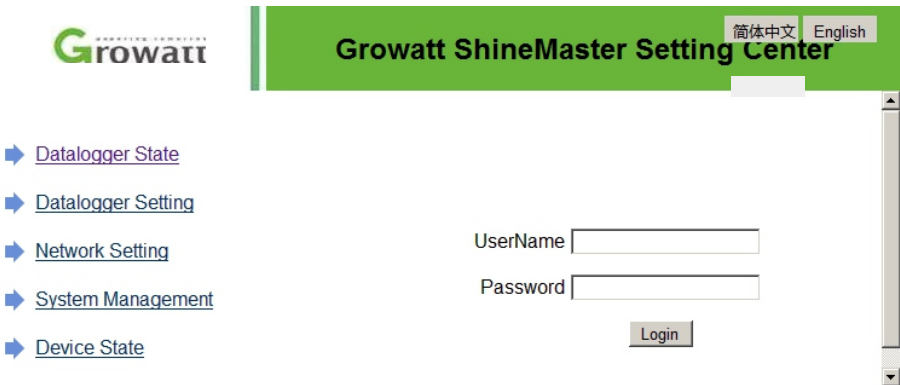

Fig 8.25
A. If the user successfully visits the shinemaster built-in page, they can go directly to the built-in page login interface, as shown in figure 8.25 below.